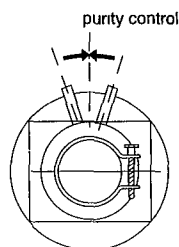

Fig 2
- 2 Loosen the deflection yoke mounting screw, and set the purity control to the center as shown in Fig 2